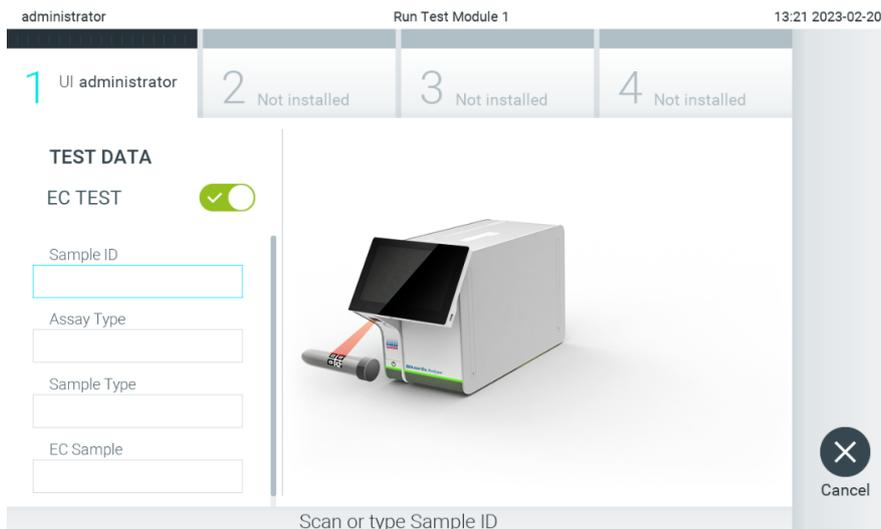

Figure 92. Turning on the EC Test toggle button to enable an EC test.
2. Turn on the EC Test toggle button (Figure 92).